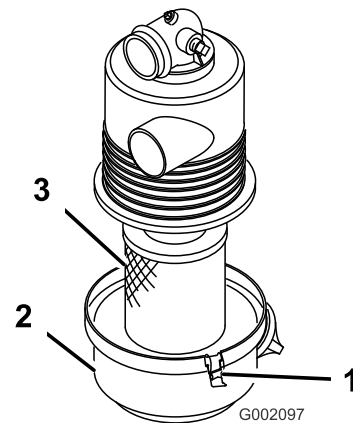

Figure 12
1. Check the air cleaner body for damage, which could possibly cause an air leak. Ensure the cover is sealing around the air cleaner body (Figure 12).
2. Release the latches securing the air-filter cover to the air-filter housing (Figure 12).
3. Separate the air-filter cover from the air-filter housing, and clean the inside of the cover (Figure 12).
3. Insert the air-filter element into air-filter housing (Figure 12).
4. Align the air-cleaner cover with the air-cleaner housing (Figure 12).
5. Secure the cover to the housing with the latches (Figure 12).